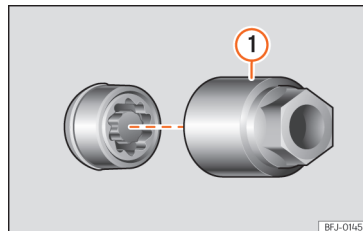

Fig. 35 Anti-theft wheel bolt with cap and adapter.
- Insert the special adapter »» Fig. 35 ① (vehicle tools »» page 40) onto the anti-theft wheel bolt and push it on as far as it will go.